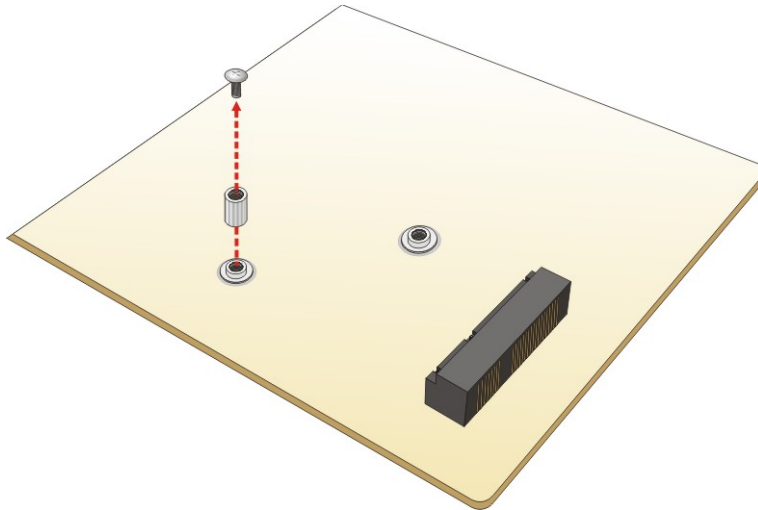

Figure 4-5: Removing the Retention Screw and the Standoff
Step 2: Remove the retention screw. Unscrew and remove the standoff secured on the motherboard. See **Figure 4-5**.